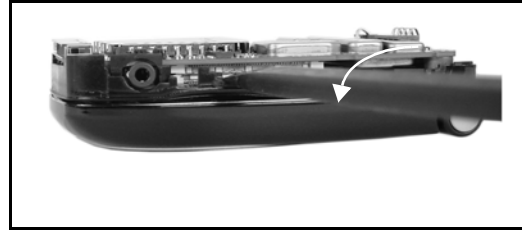

Figure 7-12.
4. Back off fractionally, then twist stick CCW until it contacts the upper main board (see Figure 7-12).